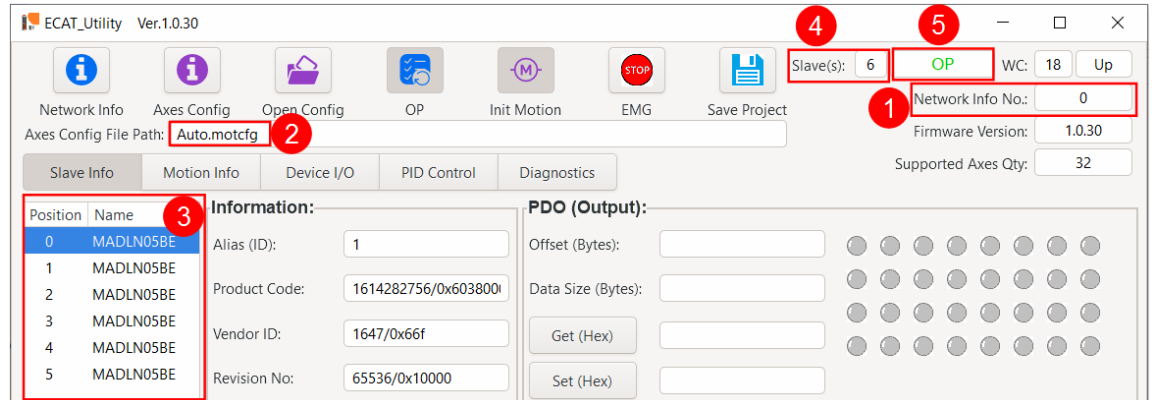

Figure 21: Utility in OP mode
After the scan process successfully completed and if the '*Enter Operational State (OP)*' and '*Init Motion*' is enabled (Figure 19), then the utility automatically executes the following steps (Figure 21)